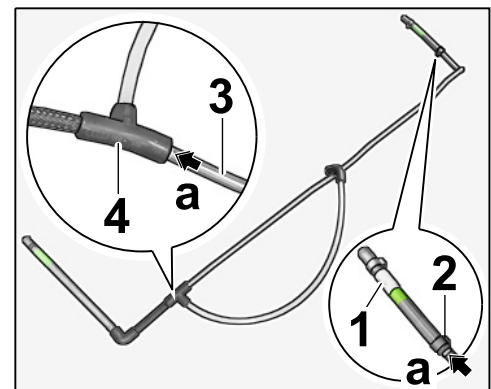

Figure 26
- 6.1.3 Insert metal vacuum line (9P1.251.838.A) ⇒ *Figure 26-3-* as far as the marking (white) ⇒ *Figure 26 -arrow a-* into the T-piece ⇒ *Figure 26 -4-*.
Insert metal vacuum line as far as the marking (white) ⇒ *Figure 26 -arrow a-* into the 93-mm steel flexi-pipe ⇒ *Figure 26-1-*.